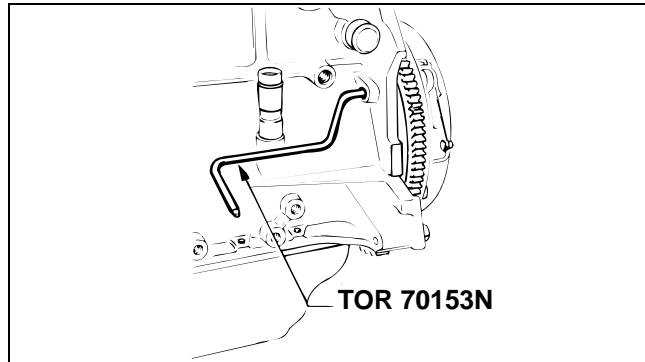

Figure 42
1. Slowly turn the crankshaft in the operating direction (clockwise as viewed from the timing belt end) until the TDC Lock Pin tool (TOR 70153N) goes into the hole in the flywheel (Fig. 42).